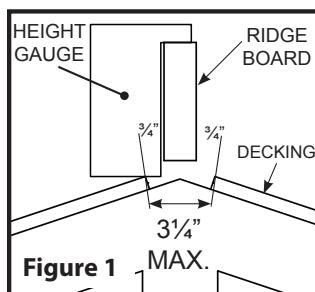
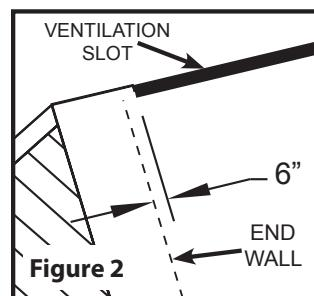
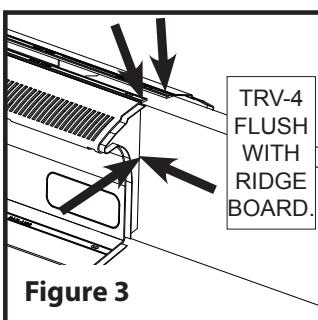

Figure 1
Figure 2
Figure 3
3. Using a tape measure and chalk line, mark the decking for a $\frac{3}{4}$ " ventilation slot along each side of the ridge board. The width of the slot should be measured from EACH side of the ridge board. (See Figure 1) The ventilation slot for the TRV-4 should end at least 6" from EACH interior end wall and allow the TRV-4 to extend a minimum of 6" past the end of the slot. (See Figure 2)
1. Install the ridge board to the proper height based on the supplied Ridge Board Height Gauge. (See Figure 1) It is VERY important that the TRV-4 vent is flush against the ridge board to allow proper air flow and sealing. (See Figure 3)